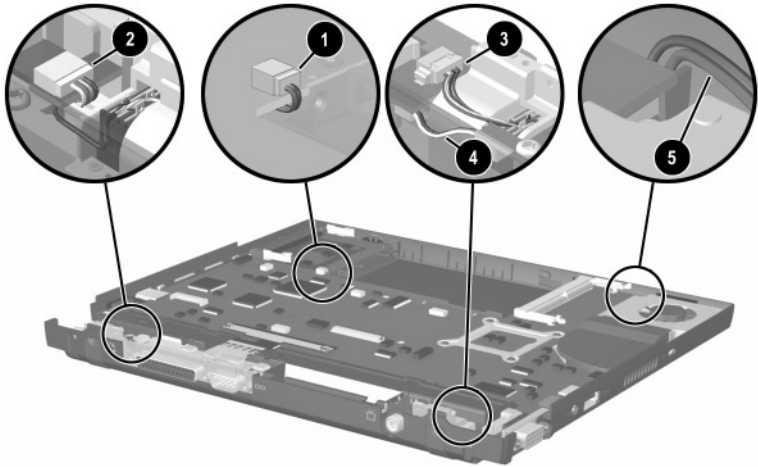

Figure 5-37. Routing the Speaker, External Battery Terminal, NTSC Module, and Fan Cables
CAUTION: Make sure the speaker ❶, external battery terminal ❷ and ❸, NTSC module ❹, and fan cables ❺ do not get trapped underneath the system board when it is installed into the base enclosure (Figure 5-37). Failure to follow this caution can result in damage to notebook components, system failure, and data loss